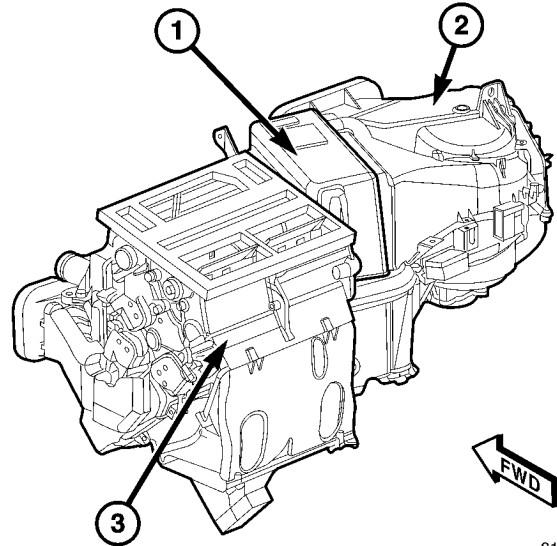

Fig. 26 HVAC Housing Assembly
(1) Remove the HVAC housing from the vehicle and place it on a workbench (Refer to 24 - HEATING & AIR CONDITIONING/DISTRIBUTION - FRONT/HVAC HOUSING - REMOVAL).
(2) Remove the air distribution housing from the HVAC housing (Fig. 26) (Refer to 24 - HEATING & AIR CONDITIONING/DISTRIBUTION - FRONT/HVAC HOUSING - AIR DISTRIBUTION HOUSING - REMOVAL).
(3) Remove the air inlet housing from the HVAC housing (Refer to 24 - HEATING & AIR CONDITIONING/DISTRIBUTION - FRONT/HVAC HOUSING - AIR INLET HOUSING - REMOVAL).
(4) Remove the A/C expansion valve from the A/C evaporator (Refer to 24 - HEATING & AIR CONDITIONING/PLUMBING/A/C EXPANSION VALVE - REMOVAL).